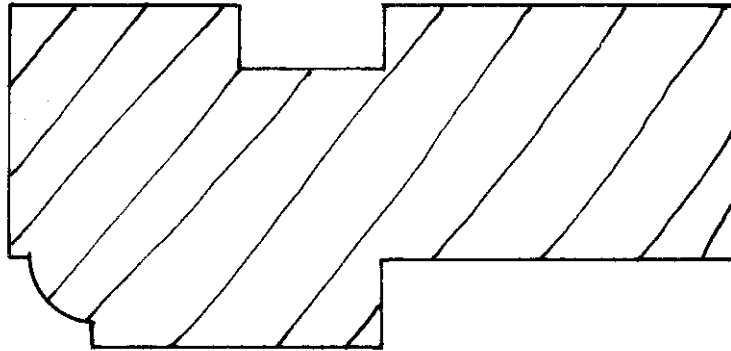

Fig. 5
14. (a) Indicate on the end section of the 95 x 45 mm head shown in Fig. 5 the position of the tenon.